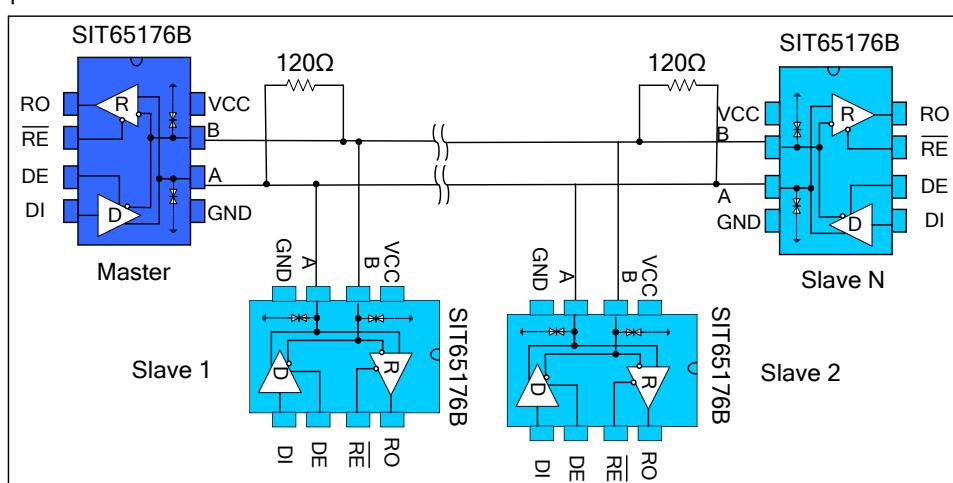

Figure 9 Bus type RS485 half-duplex communication network
3.1 Bus topology networking: SIT65176B RS485 Transceivers are designed for bidirectional data communication on multi-drop bus transmission lines. Figure 9 shows a typical network application circuit. These devices can also be used as linear repeaters when the cable length exceeds 4000 feet. To reduce reflections, termination matching at both ends of the transmission line should be performed with their characteristic impedance, and branch connections outside the main trunk should be as short as possible.